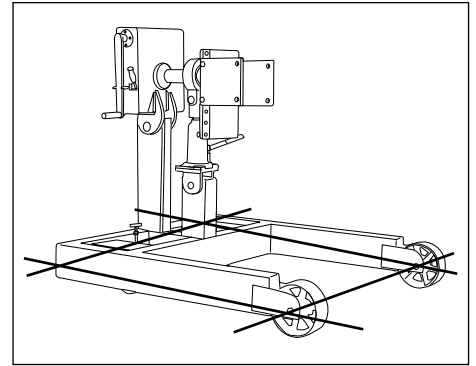

Figure 2
**ALWAYS** verify that the product and the application are compatible. **NEVER** load the engine stand with an engine that extends beyond an imaginary line drawn connecting the centerlines of the front and rear wheel/caster axles as show in Figure 2.